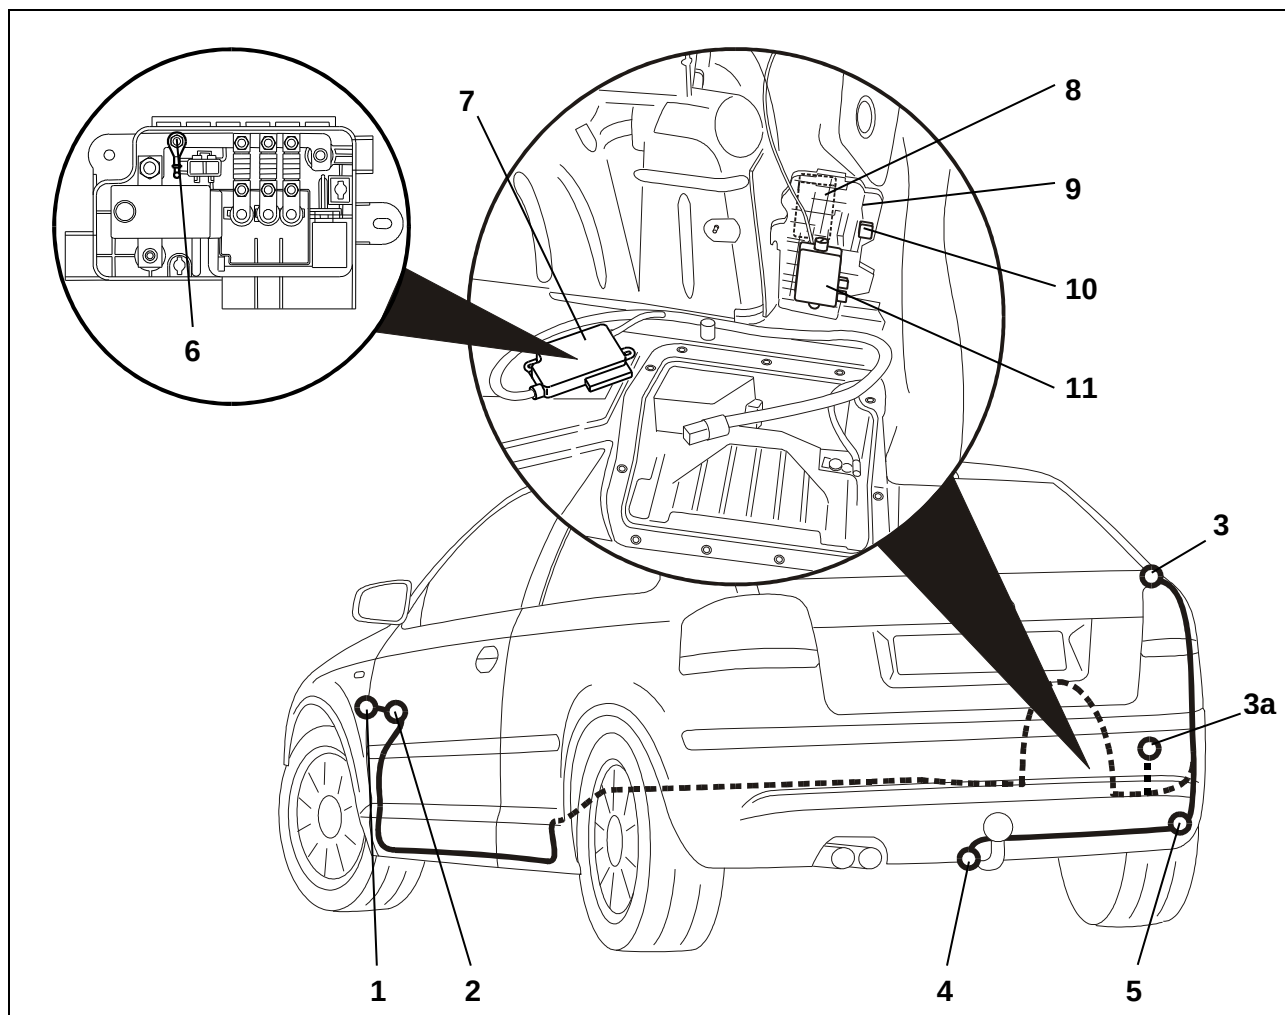

Fig. 1: Installation overview
3. Remove the vehicle's 40 mm hole cover in the floor pan below the right tail light (Fig. 1/5).
4. Lay the cable end with the 16-pin and the 3-pin plugs from the outside through the cable leadthrough to the component carrier (Fig. 1/9).
5. Insert the rubber grommet into the cable leadthrough (Fig. 1/5).
6. Lay the socket end of the cable set to the socket holder plate (Fig. 1/4).
9. Screw the socket onto the holding plate (Fig. 1/4) using the supplied screws.
10. Plug in the trailer connection unit (Fig. 1/11) at the bottom of the component carrier front (Fig. 1/9).